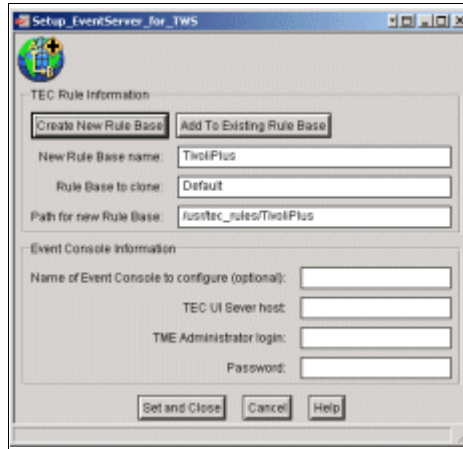

Figure 8-51 New text fields revealed after pressing the Create New Rule Base button
5. Select **Create New Rule Base**. New text fields with default values are created in the TEC Rule Information group as shown in Figure 8-51 on page 374.